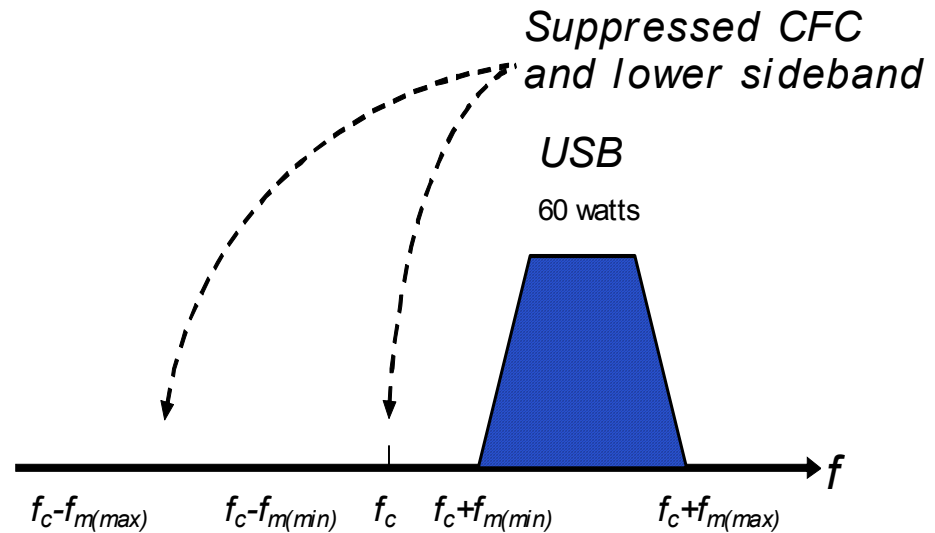

Figure 6-3: A SSB-SC Signal in USB Mode
If the SSB signal of Figure 6-3 is sending a voice signal (300 Hz - 3 kHz), calculate:
- In Figure 6-3,  $f_{\min}$  is equal to  $f_c + f_{m(\min)}$ , and  $f_{\max}$  is equal to  $f_c + f_{m(\max)}$ , so we can state: